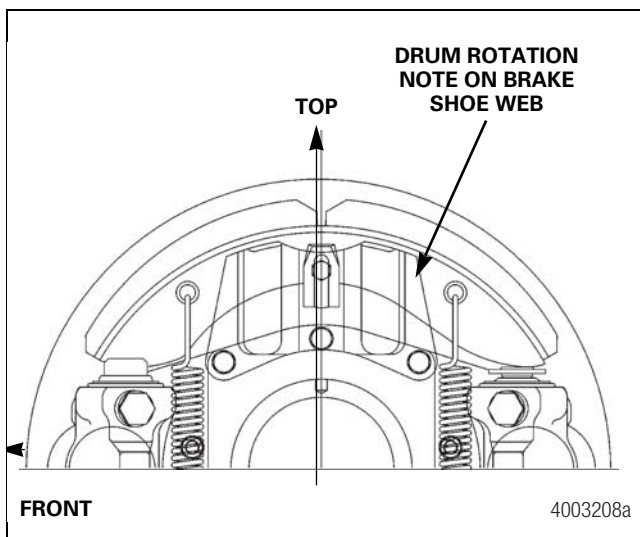

Figure 6.6
- Trailer axles built with wedge brakes must be installed so that the tires rotate in the direction indicated on the brake shoe webs. Figure 6.6.